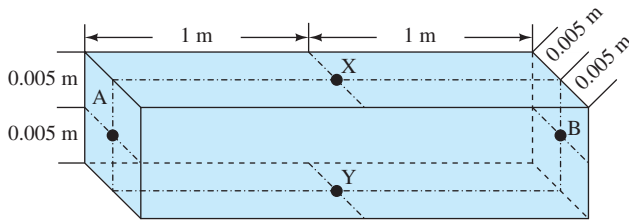

FIGURE 2.39 Water tank for Example 2.15.
In the water tank of Figure 2.39, find the resistance between (1) points A and B and (2) points X and Y, given $\rho = 175 \text{ k}\Omega\text{-m}$. Assume that the sides of the tank do not conduct current.